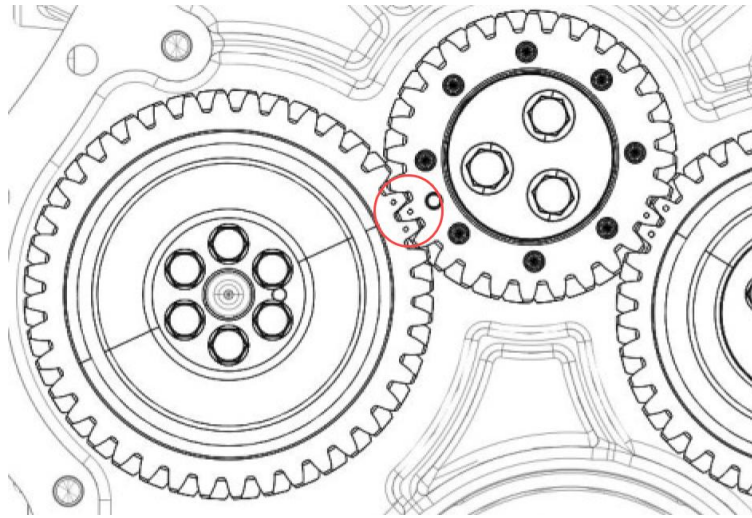

Figure 125.
6. Install the camshaft using the dowel pin and ensure the two-timing marks on the camshaft gear lie in the middle of the idler gear timing mark (Figure 125).